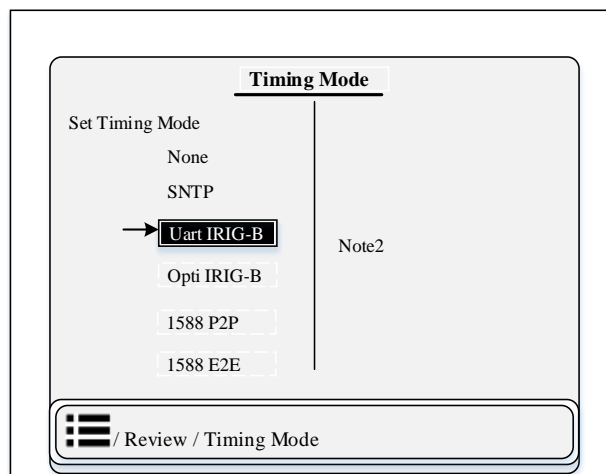

Figure 7.3.5 Overview Display of Timing Mode
This section, the user can see the time information like Uart IRIG-B, Opti IRIG-B and SNTP (Simple Network Time Protocol) information and the user can't change any kind of information. Users can access this function through the following path: "Review > Timing Mode". The overview display of timing mode is shown in below figure 7.3.5.
This section divided into two sub-parts and describe the information of binary input (BI) of this IED seen in the above figure 7.3.5. This section only display all the binary input data. User can access this function through the following path: "Monitor > BI".